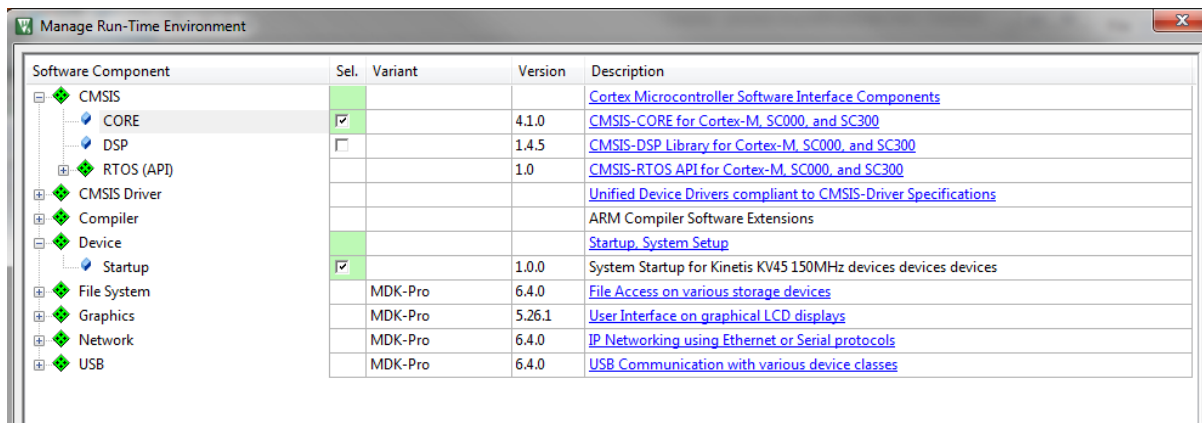

Figure 1-26. Manage Run-Time Environment dialog
8. In the next dialog, expand the Device node, and tick the box next to the Startup node. See Figure 1-26.